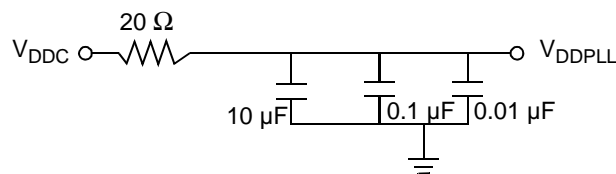

Figure 31. PLL Power Supply Filter Circuits
- PLL power supply filtering.** The MSC7119 V_{DDPLL} power signal provides power to the clock generation PLL. To ensure stability of the internal clock, the power supplied to this pin should be filtered with capacitors that have low and high frequency filtering characteristics. V_{DDPLL} can be connected to V_{DDC} through a 20Ω resistor. V_{SSPLL} can be tied directly to the GND plane. A circuit similar to the one shown in **Figure 31** is recommended. The PLL loop filter should be placed as closely as possible to the V_{DDPLL} pin (which are located on the outside edge of the silicon package) to minimize noise coupled from nearby circuits. The $0.01 \mu\text{F}$ capacitor should be closest to V_{DDPLL} , followed by the $0.1 \mu\text{F}$ capacitor, the $10 \mu\text{F}$ capacitor, and finally the $20\text{-}\Omega$ resistor to V_{DDC} . These traces should be kept short.